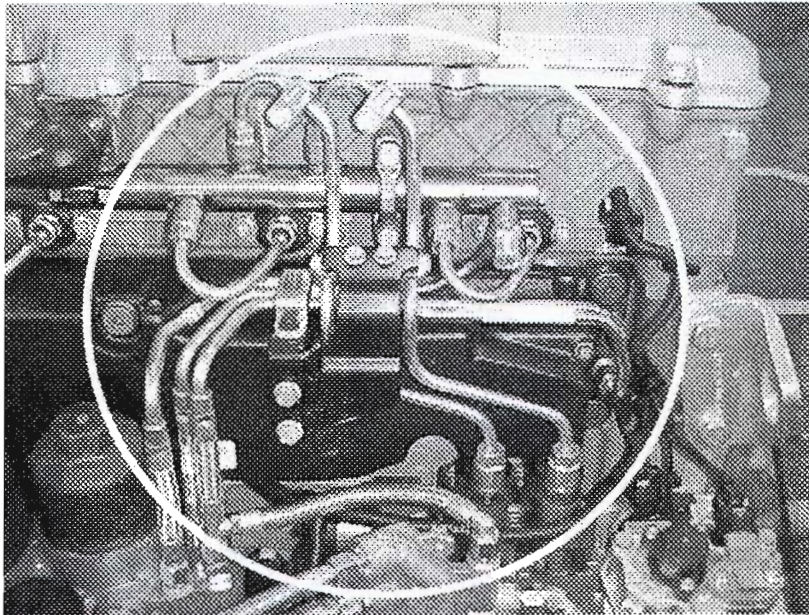

Figure 7 – Steam Clean Area
7. Thoroughly clean the high pressure fuel pump, fuel filter module, and the fuel lines with a high pressure steam cleaner. See Figure 7.